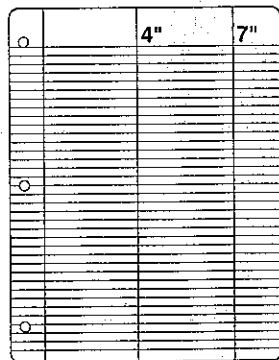

Figure 6.7a
Step 1: With the pen or pencil, draw a vertical line at 4 inches and another at 7 inches from the left edge of the paper (Figure 6.7a).